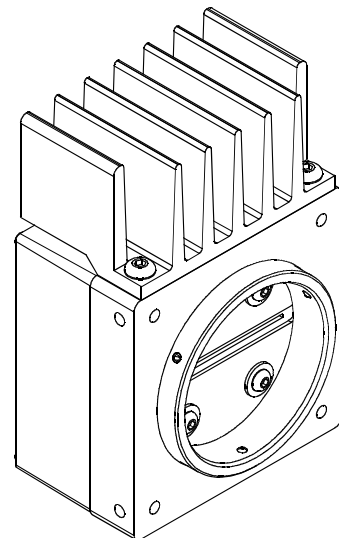

Figure 1-3: L304kc with Heat Sink
- Basler can supply heat sinks designed for use with **L304kc** cameras. The heat sinks can be mounted on the side(s) of the camera as shown in Figure 1-3.